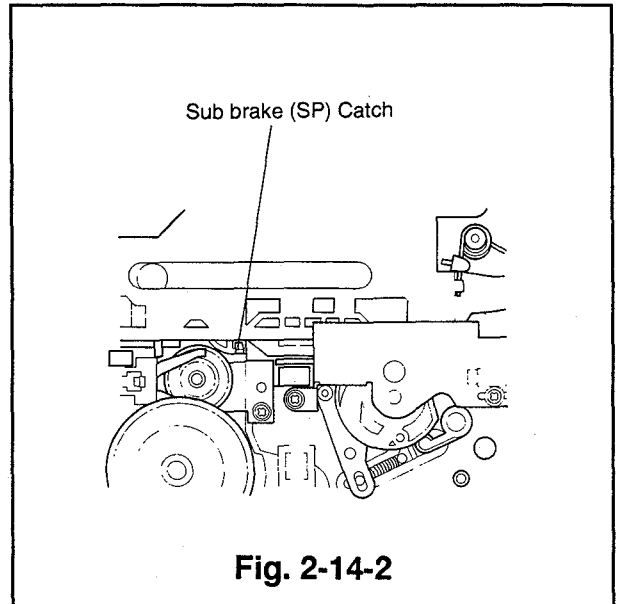

Fig. 2-14-2
- ① Remove the cassette housing. (Refer to Para. 2-1 for the removal method.)
- ② Detach the sub spring(SP).
- ③ Reverse the deck and unfasten the catch with a small screw driver, etc., to remove the sub brake(SP) as shown in Fig. 2-14-2.